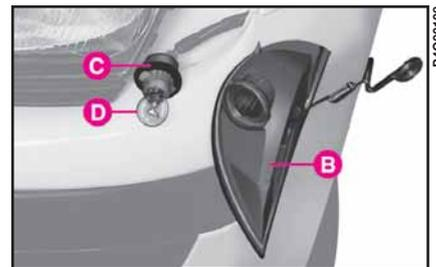

fig. 18
- 2) remove the lens unit **B**-fig. 18 from the front;